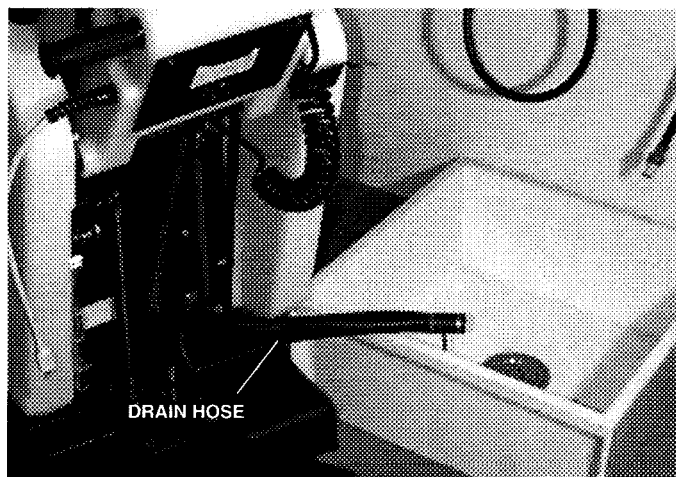

Fig. 15
1. Drain recovery tank when solution tank is empty. Take extractor to a drain sink or floor drain and unhook drain hose from rear of machine. Unscrew T-handle from drain hose and let dirty water drain. (Figure 15)